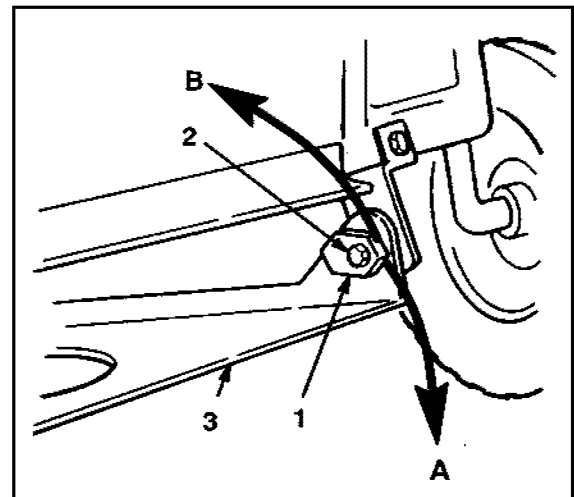

Figure 41 XL32pit3.TIF
4. Adjust the front-to-rear pitch by rotating the special pitch adjusting nuts on both sides of the mower pivot mount (Figure 41).